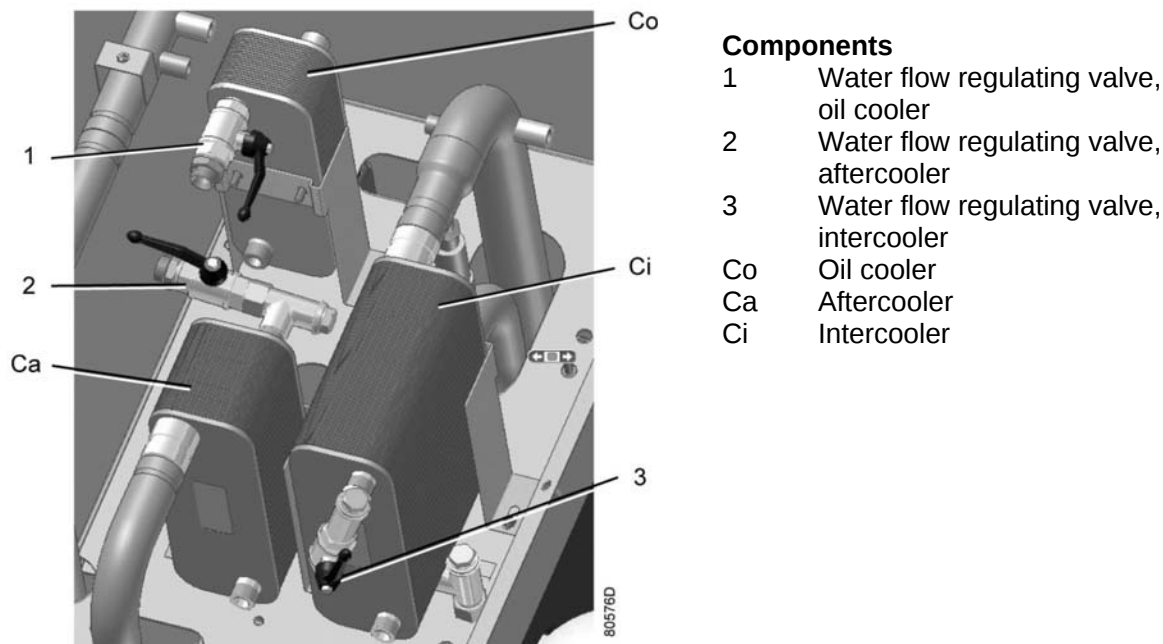

FIG. 3.2.1d Coolers and Water Valves (ZR)
8. **On “ZR” Only:** Check that the cooling water drain valves (customer installed) in the inlet and outlet lines are closed. Open the water inlet and outlet valves (customer installed). Open the water flow regulating valves (1), (2) and (3) and check for water flow. (FIG. 3.2.1d)
5. Open the manual condensate drain (1– FIG 3.2.1d).